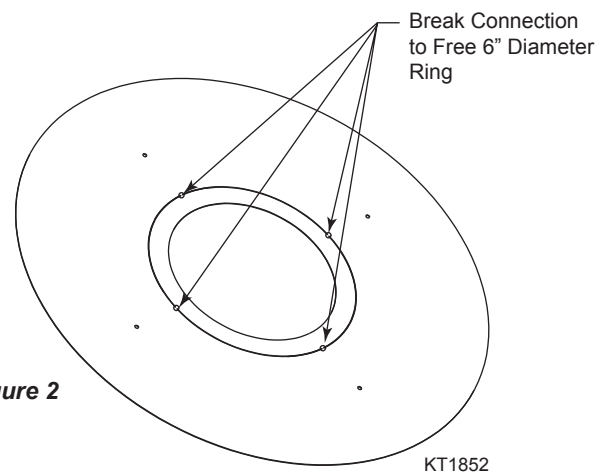

Figure 2
Modify the heat shield for 8" diameter stovepipe by holding the heat shield with one hand and use pliers to break the four (4) connection points between the 6" diameter ring and the heat shield. *Figure 2*